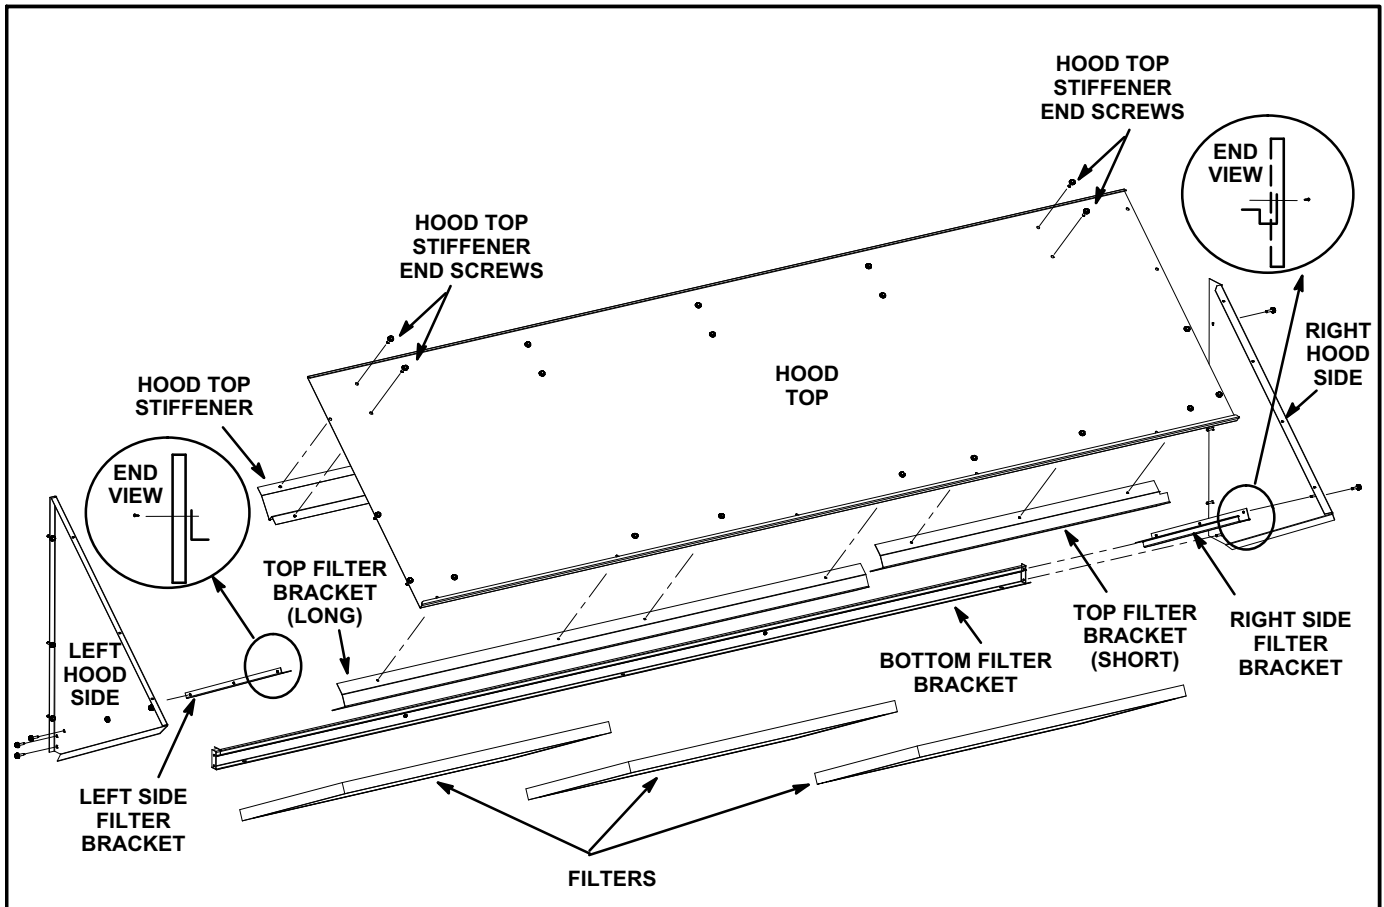

FIGURE 22
- 8- Install L-shaped left side filter bracket to left hood side. See figure 22.
- 10- Install the right side filter bracket to the right hood side. See figure 22.